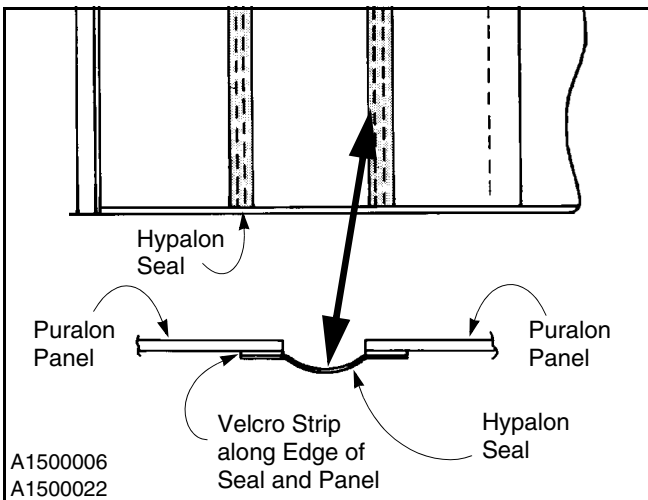

Figure 66
4. Attach a center seal to the edge of each adjoining panel using the Velcro^{®1} strips provided on the seal and panels. When attaching a center seal, start at the bottom and work your way toward the top. (See Figure 66.)